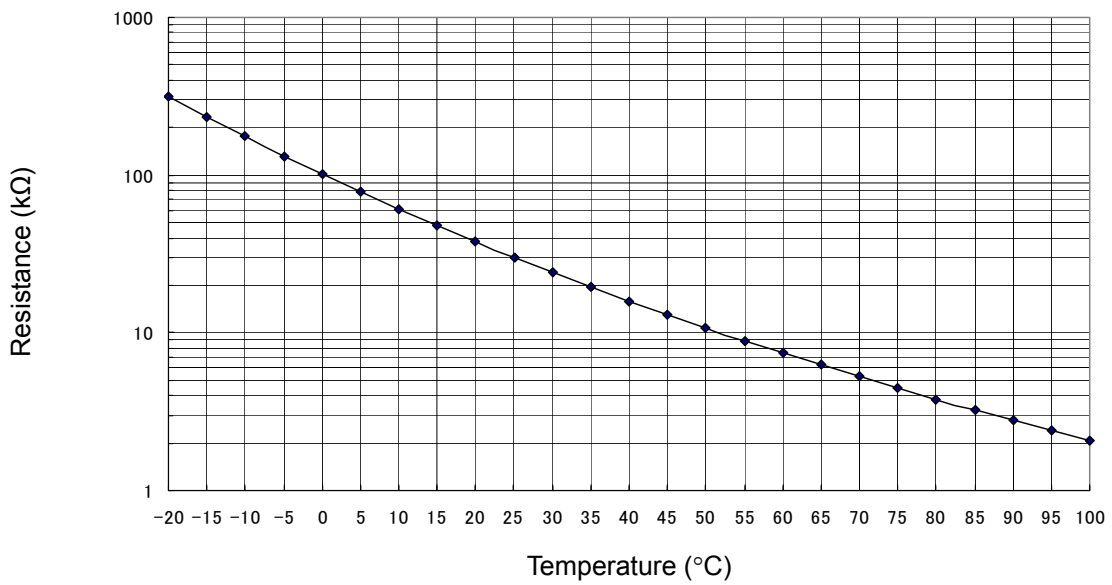

Figure 3-9 Temperature Characteristics of the Thermistor
Calculate the resistance of the thermistor (R_x) at the operating temperature T_x ($^{\circ}\text{C}$) using the following equation (9). Variation of resistance by temperature is shown in Figure 3-9 and Table 3-14.